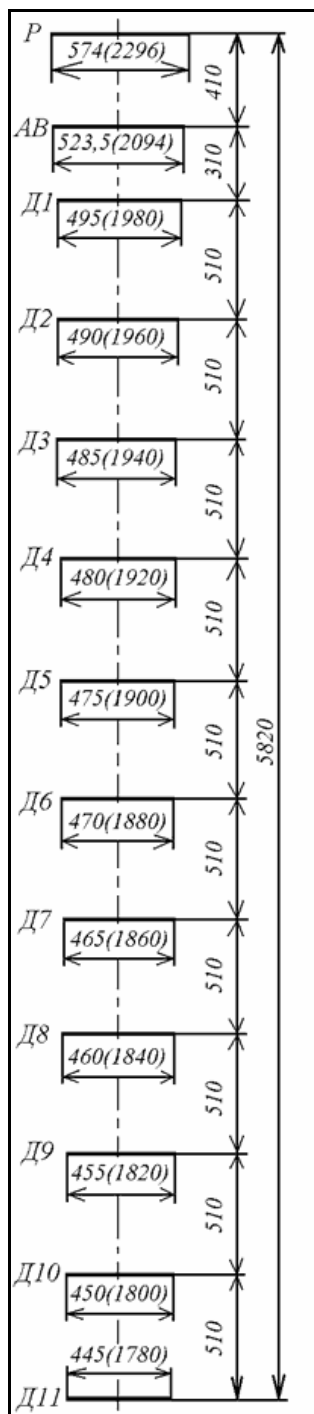
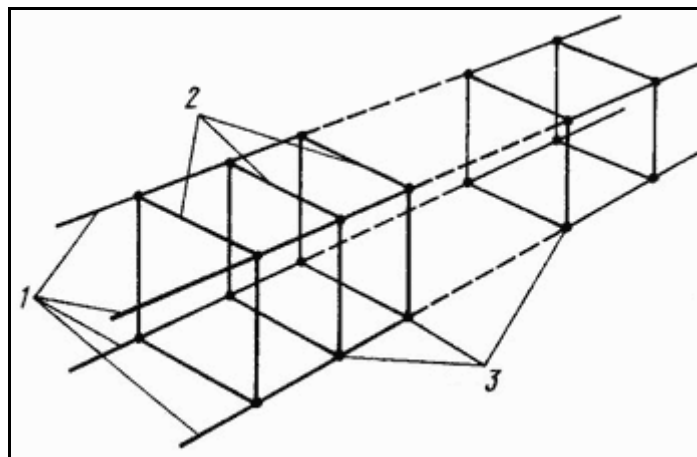

Figure 2
Figure 5
chamber some 10 cm from the ceiling. Elements of future antennas were fastened to the lines with the help of rings made of the same fishing-line material, wire-rings or plastic clamps (Figure 2): first of all there were two elements, then other were added one by one until they are 13 in number (max. for the room).
The element lengths of driver and reflector were designed according to the formula from [1] and checked after that on practice with the help of characteristics-meter X1-48. Directors were made by decreasing the length of every following element by 5 mm pro side. Elements were made from aluminum wires (3 mm dia. to metal) in isolation taken from 3-phase supply voltage cables (better will go the copper-plated aluminum in isolation – it is light weight and good for soldering). The isolation is not taken off and it is good for mounting purposes because wires with isolation of white, black and red color can be put in turn and the difference in size between the elements of the same color after two elements will be more visible. The lengths of sides of EA- elements and distances between them are seen in Figure 2, besides, there are their perimeters.
antenna without the boom (Figure 5). Now there are four lines of fishing-line or of tennis-string (1) they are bound each to its corner inside of the element (2) and this way to all the elements to set the distances according to Figure 2. The lines must be 3...4 m longer than (at each side) the EA axial length to have the opportunity to tie the antenna to posts, trees and so on.